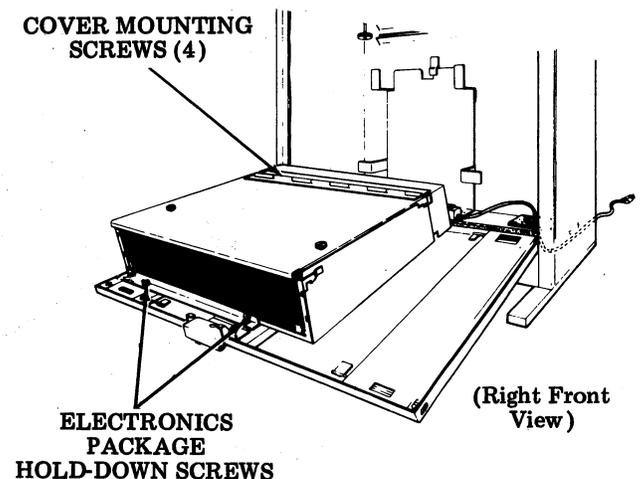

Fig. 20—Removal of Pedestal Mounted Electronics Package
4.50 Remove the electronics package from the pedestal door by removing the two screws that secure the front of the electronics package to the door. Pull the electronics package to the front releasing it from the hold-down clips located at the back of the electronics package. After the electronics package is free from the hold-down clips it can be lifted and removed from the pedestal door (Fig. 20).